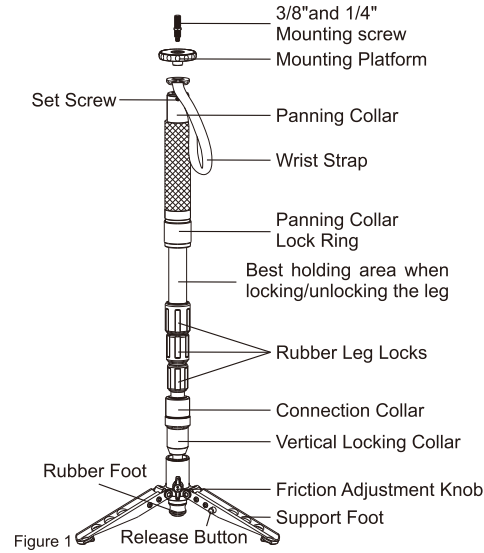

Figure 1
1. Know your Photo/Video monopod (Figure 1, 2, 3, 4, 5, 6)